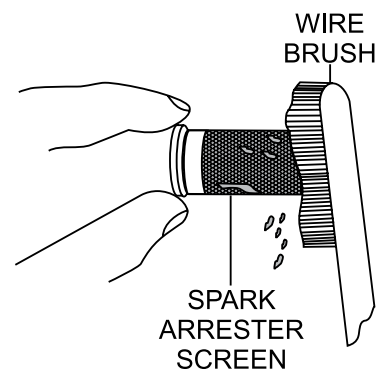

Figure 28. Cleaning The Spark Arrester
2. Remove the 5 mm screw (4) from the muffler protector, then remove the muffler protector.
3. Carefully remove carbon deposits from the spark arrester screen (Figure 28) with a wire brush